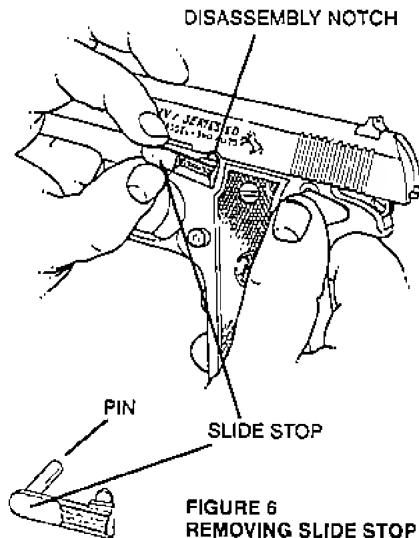

FIGURE 6
3. **(A & B)** Pull slide to rear until lug on slide stop is opposite disassembly notch. (See Figure 6) Push rounded end of pin of slide stop (on right of receiver) inward and through receiver to disengage slide stop from slide.
4. (A & B) Lift out slide stop. (See Figure 6)